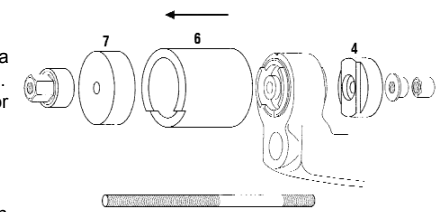

Fig.7
BMW have replaced the existing design of bush with a 'slotted' version. This bush requires to be pre-compressed as it is installed into the arm. The new bush is installed in a direction from outside towards inside of the vehicle (Fig.7). **IMPORTANT:** The cut-away on the face of the Compressor Sleeve (6) is positioned towards the bottom part of the trailing arm face to accommodate any raised area of casting. The Compressor Sleeve MUST fit squarely and flush to the arm face and align centrally to the bore of the arm, to ensure the new bush is not over-compressed when entering the arm. Slide Compressor Sleeve (6) over the bush with the arrow on top and with the direction of the arrow pointing away from Thrust Plate (4).
Assemble and fit all required parts as shown in the Installation assembly sequence diagram (Fig.7). Counter-hold the Flange/Lock Nut combination whilst turning the Force Nut Assembly to push the new bush through Compressor Sleeve (6) and into its housing. **IMPORTANT:** Check 'Slot' of bush aligns with paint mark made earlier on the arm. Continue to tighten the Force Nut until the bush is correctly installed with its metal portion protruding 2.5mm from the face of the arm (Fig.9).